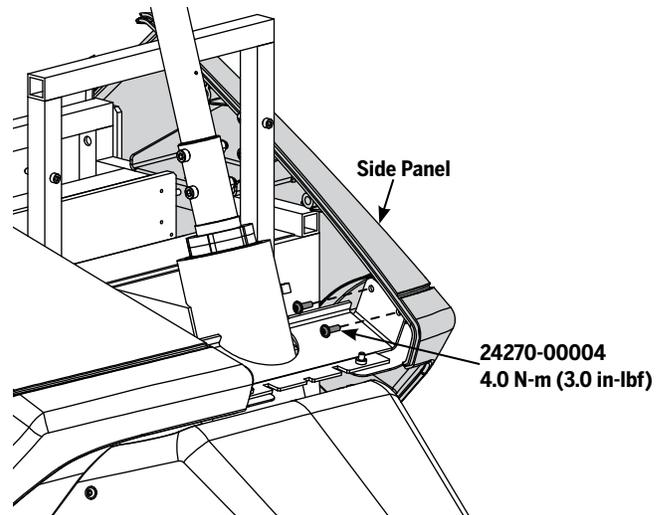

Figure 26: Front Fasteners
You may need to loosen the fasteners holding the Side Panels to the floating bracket. See **Figure 26, p. 22**. Be sure to torque the fasteners after installing the Light Cluster.
3. Using a 4 mm hex wrench, remove the four front fasteners (two each side) as shown in **Figure 26**.
5. Using a 4 mm hex wrench, install the four front fasteners (two each side) as shown in **Figure 26**. Loosely install these fasteners on both Side Panels before tightening. Torque to **4.0 N-m (3.0 ft-lbf)**.